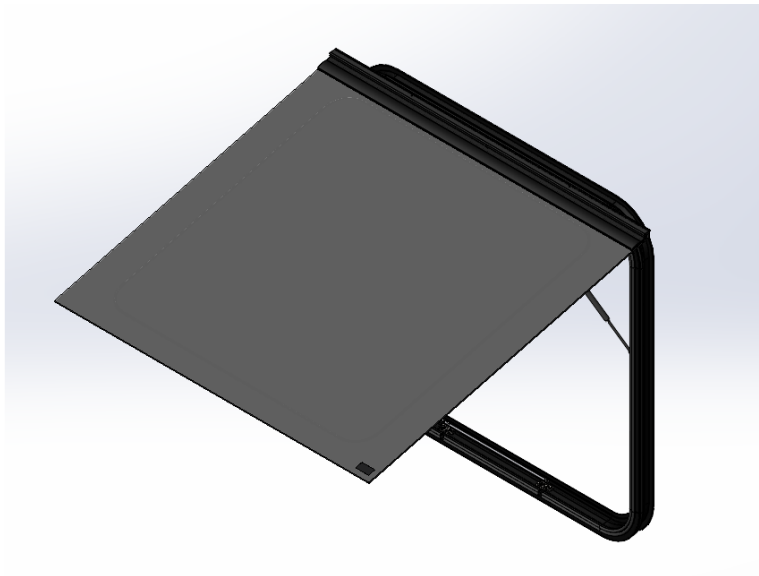

Figure 1: Open the SDS Window
- a. From the inside of the bus, operate the window and leave in open position. See Figure 1.